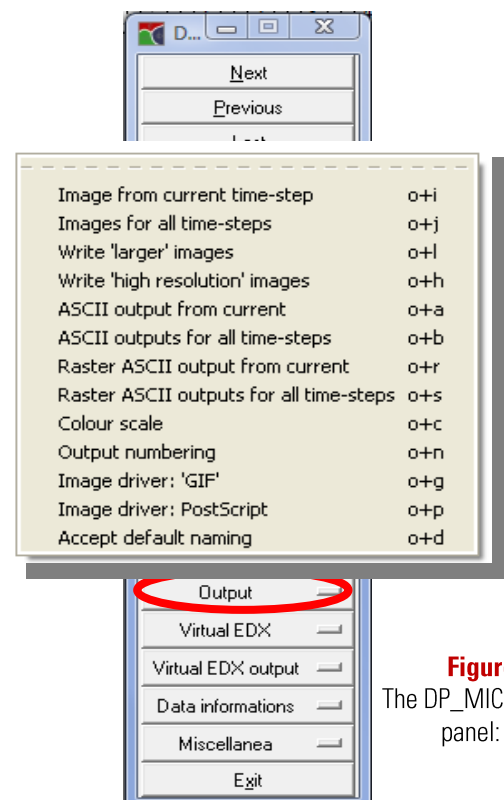

Figure 4.18
Using the option **output**, the following outputs can be generated (see figure 4.18)
- *Display scan*: draw a line using the mouse. A scan will be defined along the line. Follow the instructions in the operating window. The results are displayed in the graphics window (see Figure 4.18.). Select scan e.g. phas.